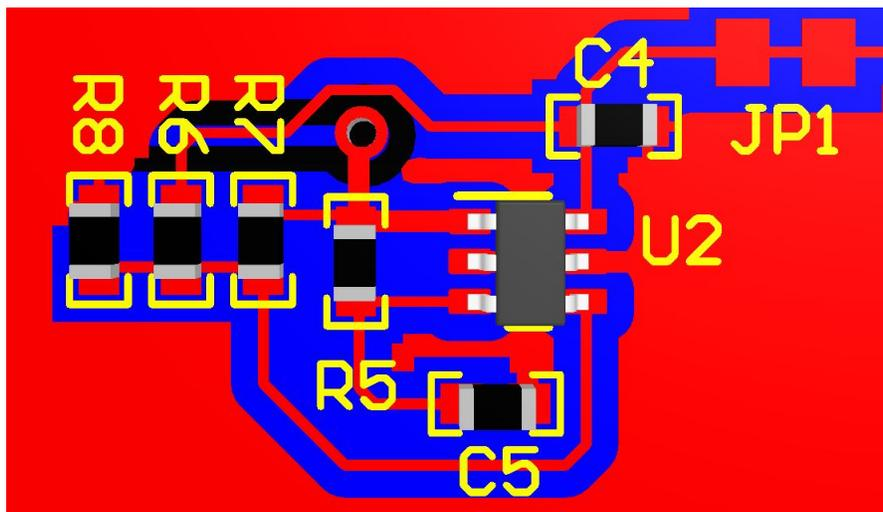

图 73. Oscillator Circuit Layout Example
- To minimize supply noise, place a decoupling capacitor (0.1- $\mu\text{F}$  ceramic, surface-mount capacitor) as close as possible to  $V_S$  as shown in Figure 73.